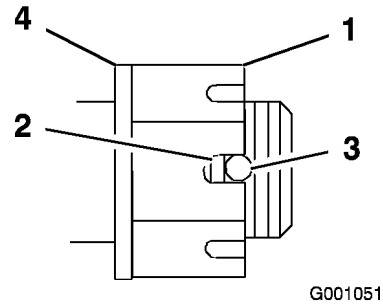

Figure 55
4. Torque the slotted nut to 125 ft-lb (170 N•m) (Figure 55).
5. Check the distance from bottom of slot in nut to inside edge of hole. Two threads or less should be showing (Figure 55).
7. Torque the slotted nut to 125 ft-lb. (170 N•m) (Figure 55).
8. Tighten the nut until the next set of slots line up with the hole in the shaft (Figure 55).